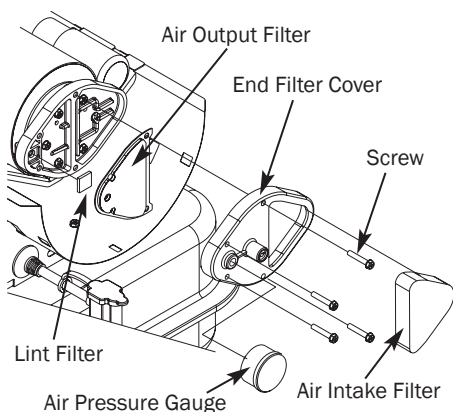

Figure 11 - Filter Assembly
- Remove end filter cover screws using medium Phillips screwdriver (see air output filter, lint filter Figure 11).